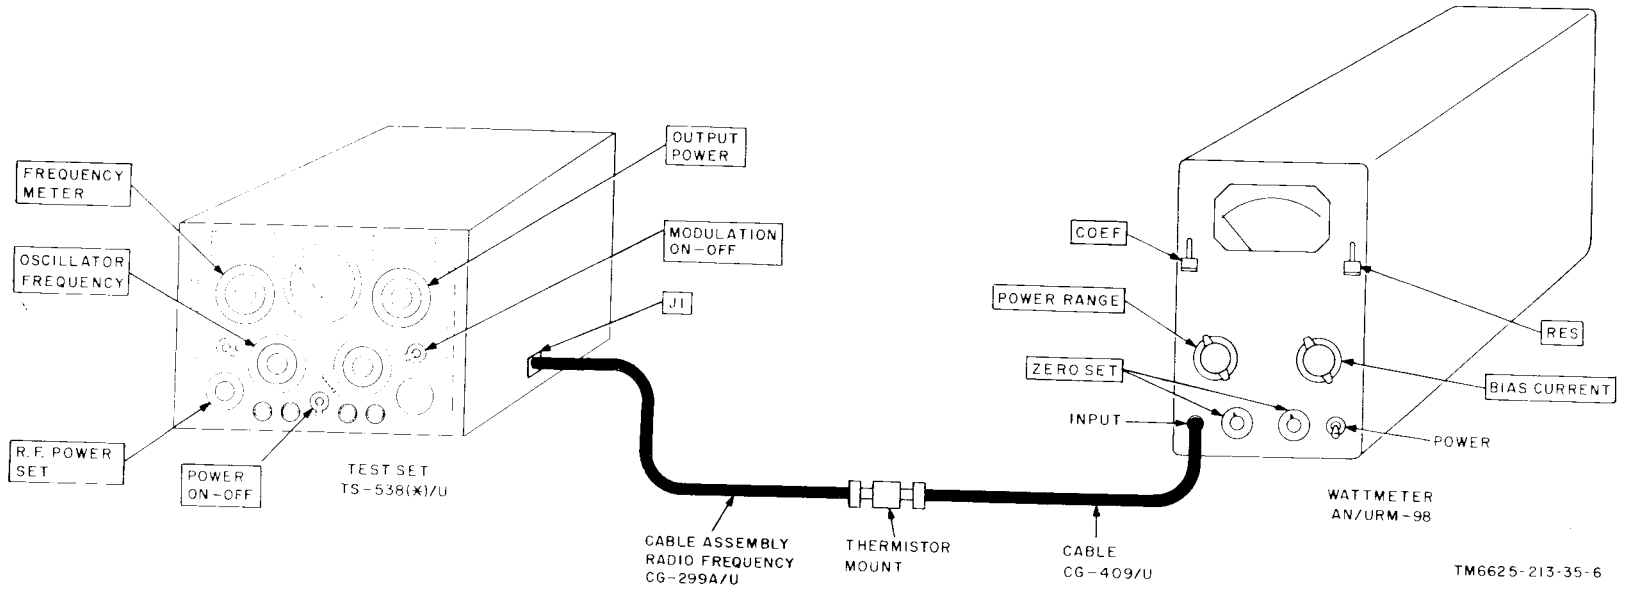

Figure 30. Power output test connections.
(1) Connect the equipment as shown in figure 30.
(2) Allow the equipment to heat at least 30 minutes before test procedure is started.